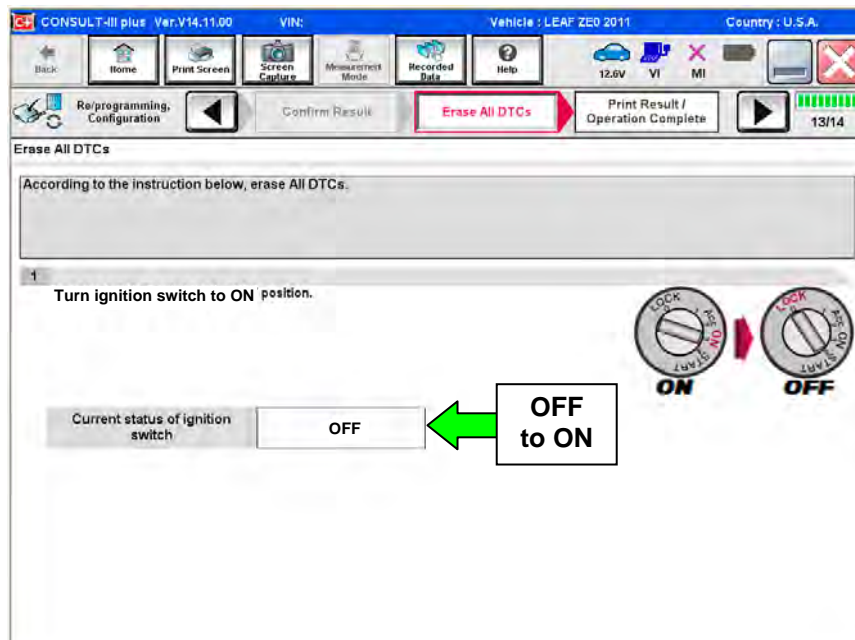

Figure 53
- The screen in Figure 53 will read **ON** after pressing the power switch twice.